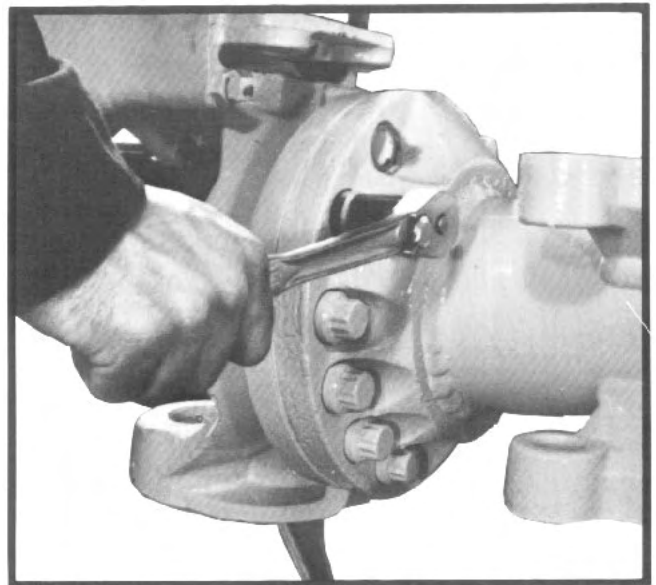

Fig. 18
3. The suspension yoke must be off the axle housing before the seal assembly can be removed. Remove suspension yoke from the axle housing by removing the 12 point capscrews and hardened washers retaining the suspension yoke to the axle housing (See fig. 18).
2. Apply gasket compound to one side of axle flange gasket and install on suspension yoke. Assemble suspension yoke to axle housing with the hardened washers and 12 point capscrews (See fig 18). Tighten capscrews to correct torque.